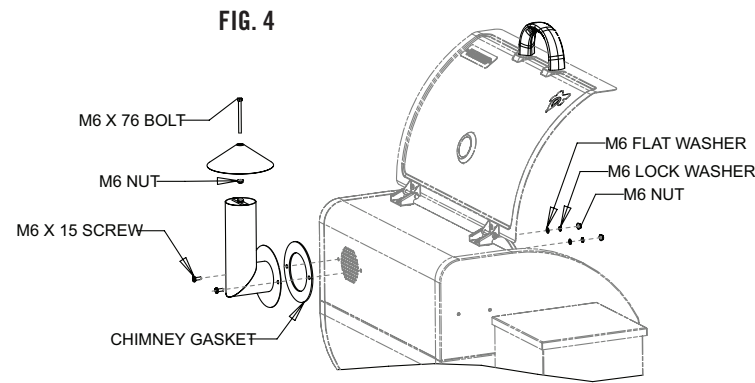

FIG. 4
1. Install chimney to grill as shown in Fig 4. Make sure to install the gasket between the grill and the chimney.
3. Install M6 x 76 Bolt through chimney cap and secure using Qty (1) M6 nut. Thread second nut onto bolt leaving approximately 1.5" to the top of the cap. Thread cap assembly down into the chimney bracket until the lower nut hits the bracket. See Fig 4.